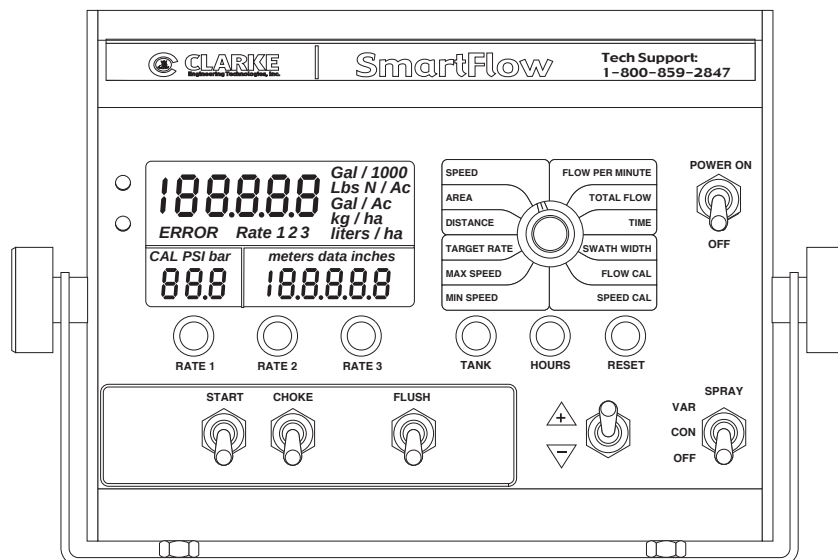

Figure 4- Remote Control Station
4. Check the oil in the engine. If necessary, add oil until the level reaches the mark on the dipstick. The engine manual supplied with the fog generator will advise the correct oil to use. Reference Figure 4.
1. On the Remote Control Box, turn the Main Power switch to the ON position. Reference Figure 4.
2. On the Remote Control Box, set the Spray switch to the OFF position. Reference Figure 4.
3. For a cold engine, on the Remote Control Box, toggle the choke switch and starter switch at the same time, until the engine fires. Reference Figure 4.
4. For a hot engine, on the Remote Control Box, toggle the starter switch until the engine fires. Reference Figure 4.